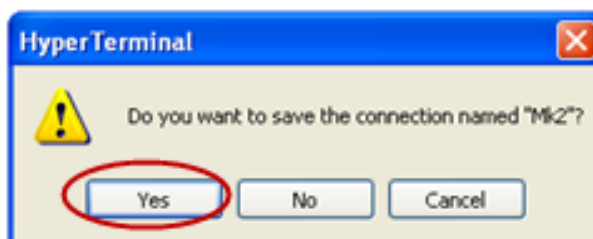

Fig.16
9. Sauvegarder la connexion (Fig.16)